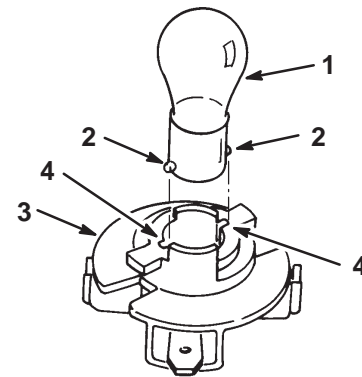

Figure 29
4. Push and rotate the bulb counterclockwise until it stops (approx. 1/4 turn) and remove the bulb from the bulb holder (Fig. 29).
1. The bulb has metal pins on the side of its base. Align the pins with the slots in the bulb holder and insert the base into the holder (Fig. 29). Push and rotate the bulb clockwise until it stops.